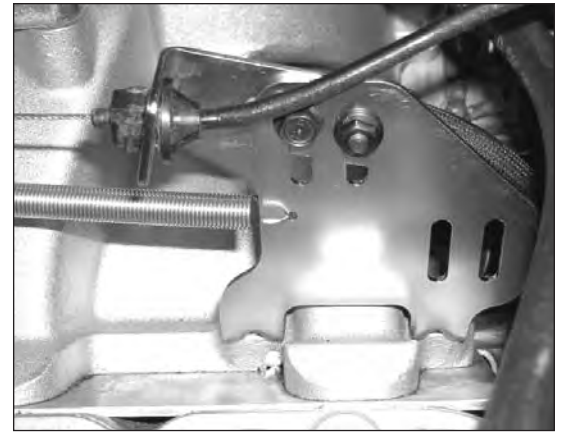

Figure 2 - Throttle Cable Bracket
2. Select the appropriate cable brackets for your application (large or small opening brackets) and attach them to the GEN III throttle bracket base with the appropriate number of 6mm x 1.0 x 12mm serrated flange hex bolts. (**Note:** In our retrofit of the LS1 into a 1974 Camaro, using a TH400R automatic transmission, we only needed one of the small opening cable brackets for the throttle cable, since a kickdown cable is not used. See **Figure 2** for example.)